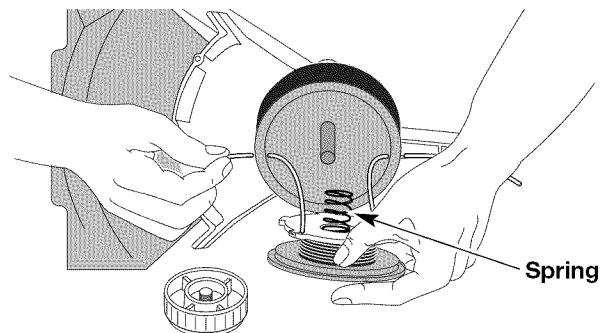

Fig. 35
- Insert the ends of the line through the eyelets in the outer spool and place inner reel with spring inside the outer spool (Fig. 35). Push the inner reel and outer spool together. While holding the inner reel and outer spool, grasp the ends and pull firmly to release the line from the holding slots in the reel.
- Insert the ends of the line through the eyelets in the outer spool (Fig. 35).